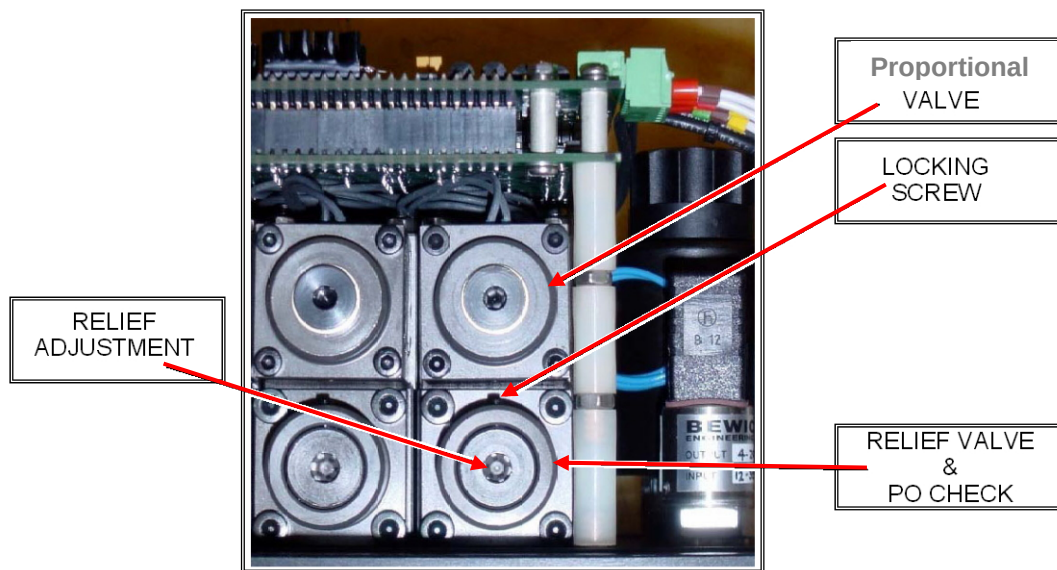

Figure 4 - Typical HCU Valve Stack
4. Loosen all M6 socket head cap screws from the valve pack cover flange. The housing can then be removed in one piece as shown in Figure 4 (the M6 cap screws are retained in the housing by captive washers).